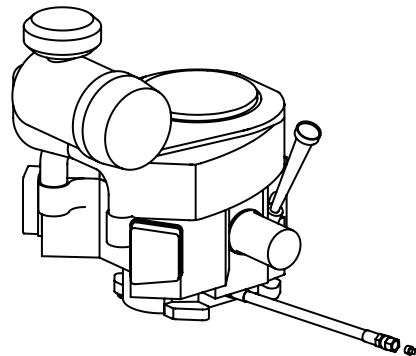

Figure 35
2. Locate the oil drain hose on the engine (Figure 35).
5. While holding the free end of the oil drain hose over the oil collection container, unscrew the square-head hose plug from the end of the hose (Figure 35). Drain the engine oil into the collection container.